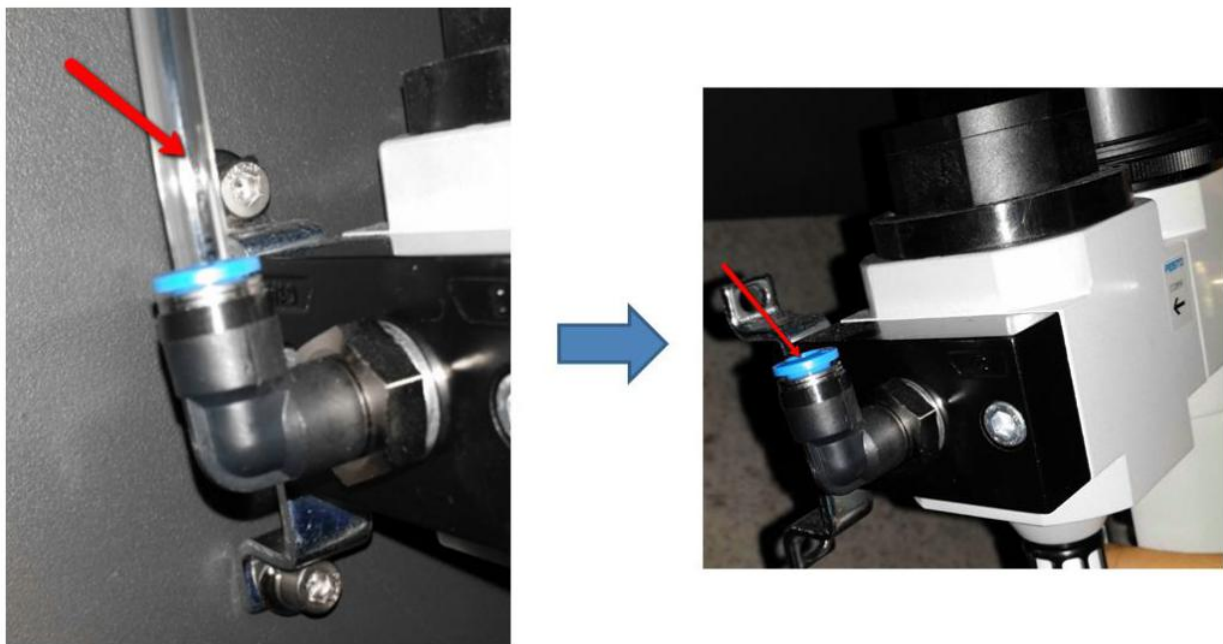

Figure 7 Tubing Removal
7. Remove the Tubing from the Fitting as below Figure 7.